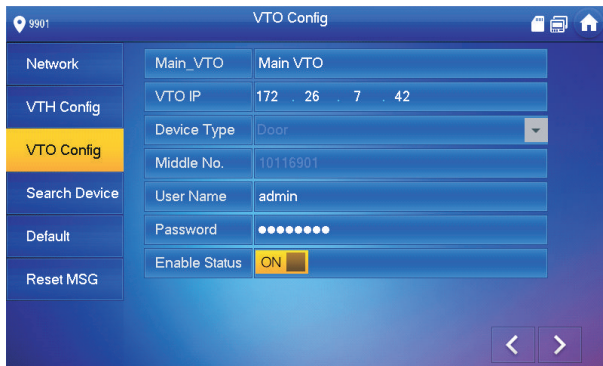

Figure 3-23
The system displays "VTO Config" interface, as shown in Figure 3-23.
- 1. In Figure 3-23, enter main VTO name, VTO IP, "User Name" and "Password".